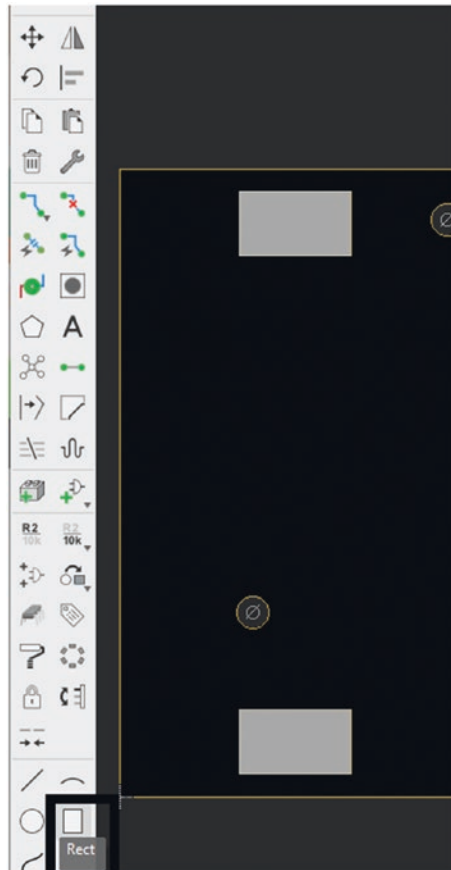

Figure 7-6. Select Rect from the functions menu
4. Select the “Rect” function. See Figure 7-6.